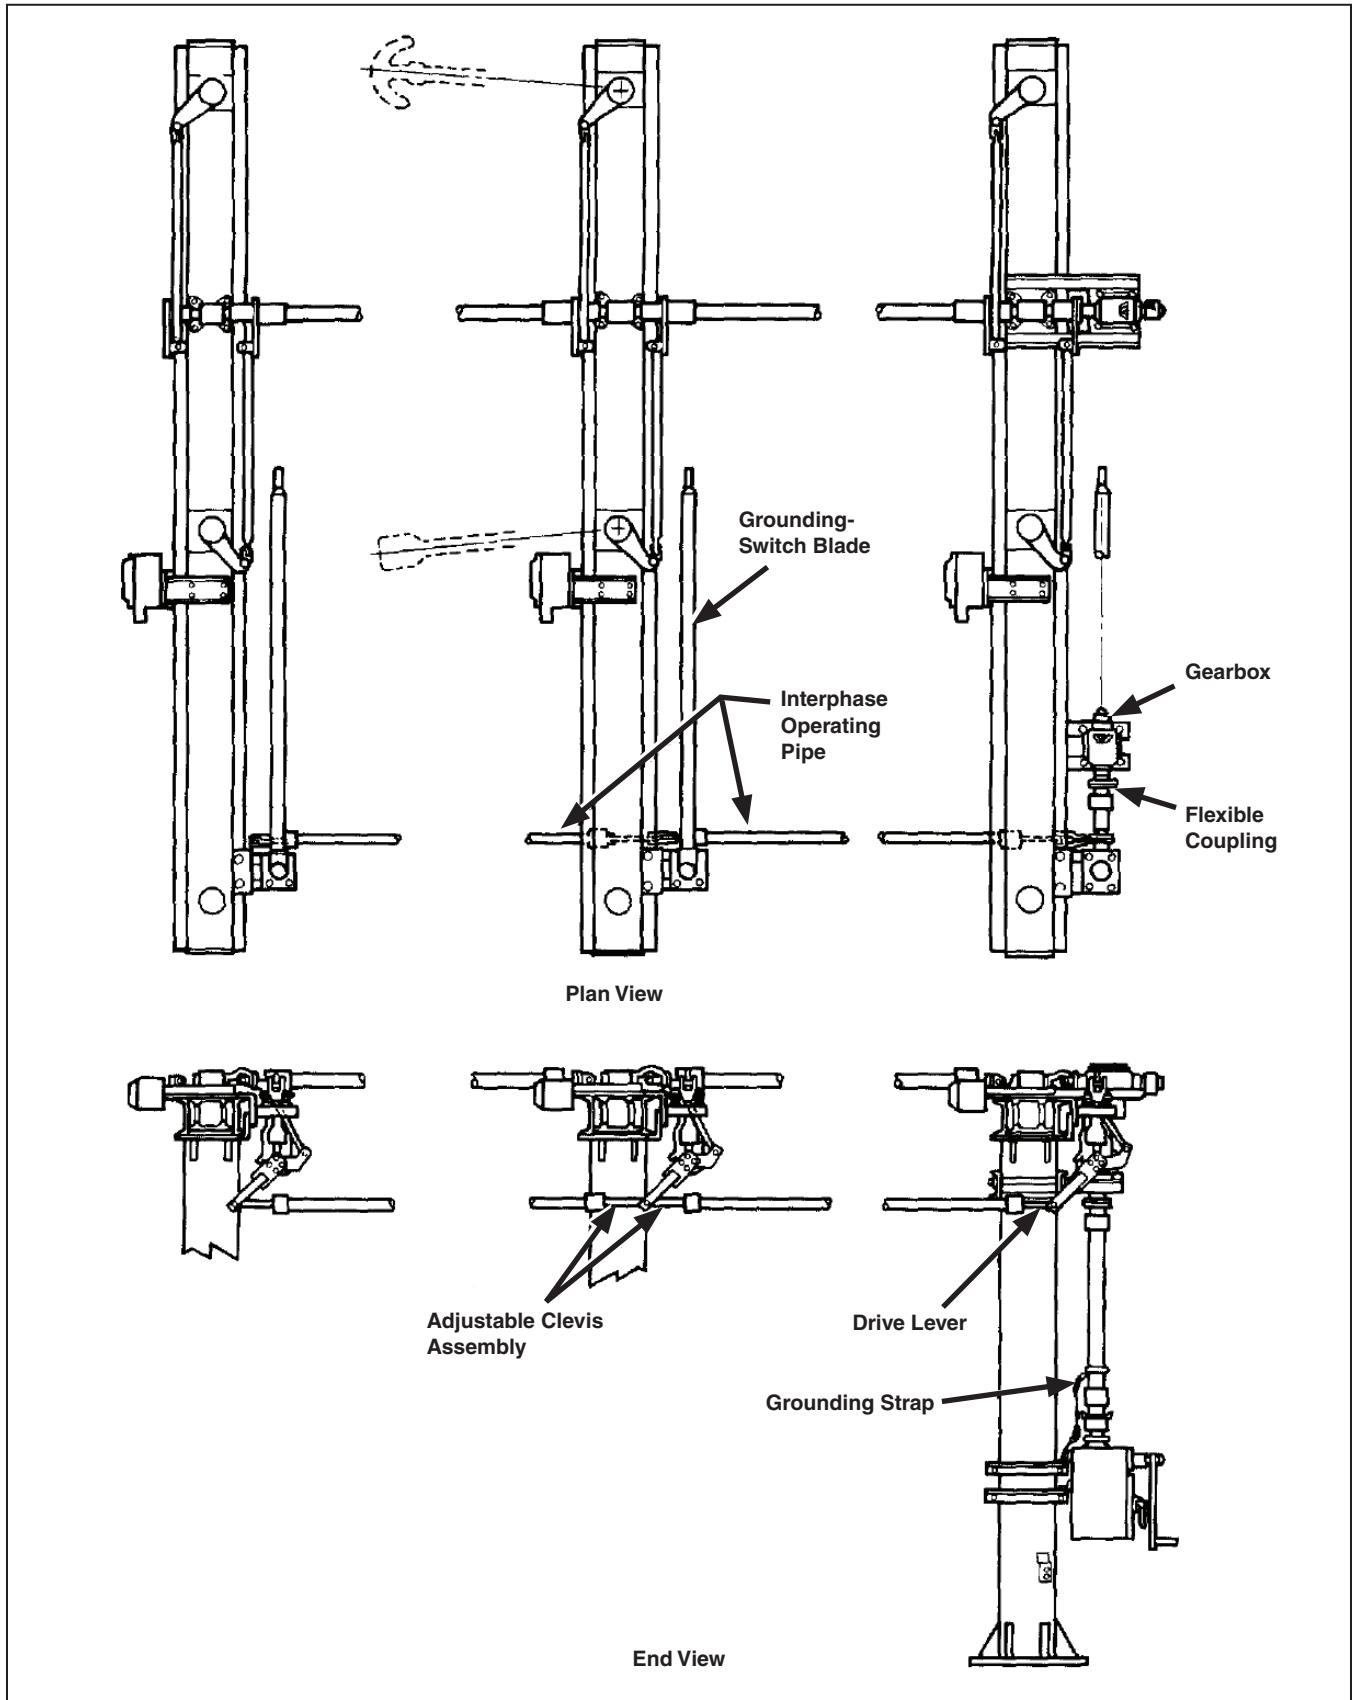
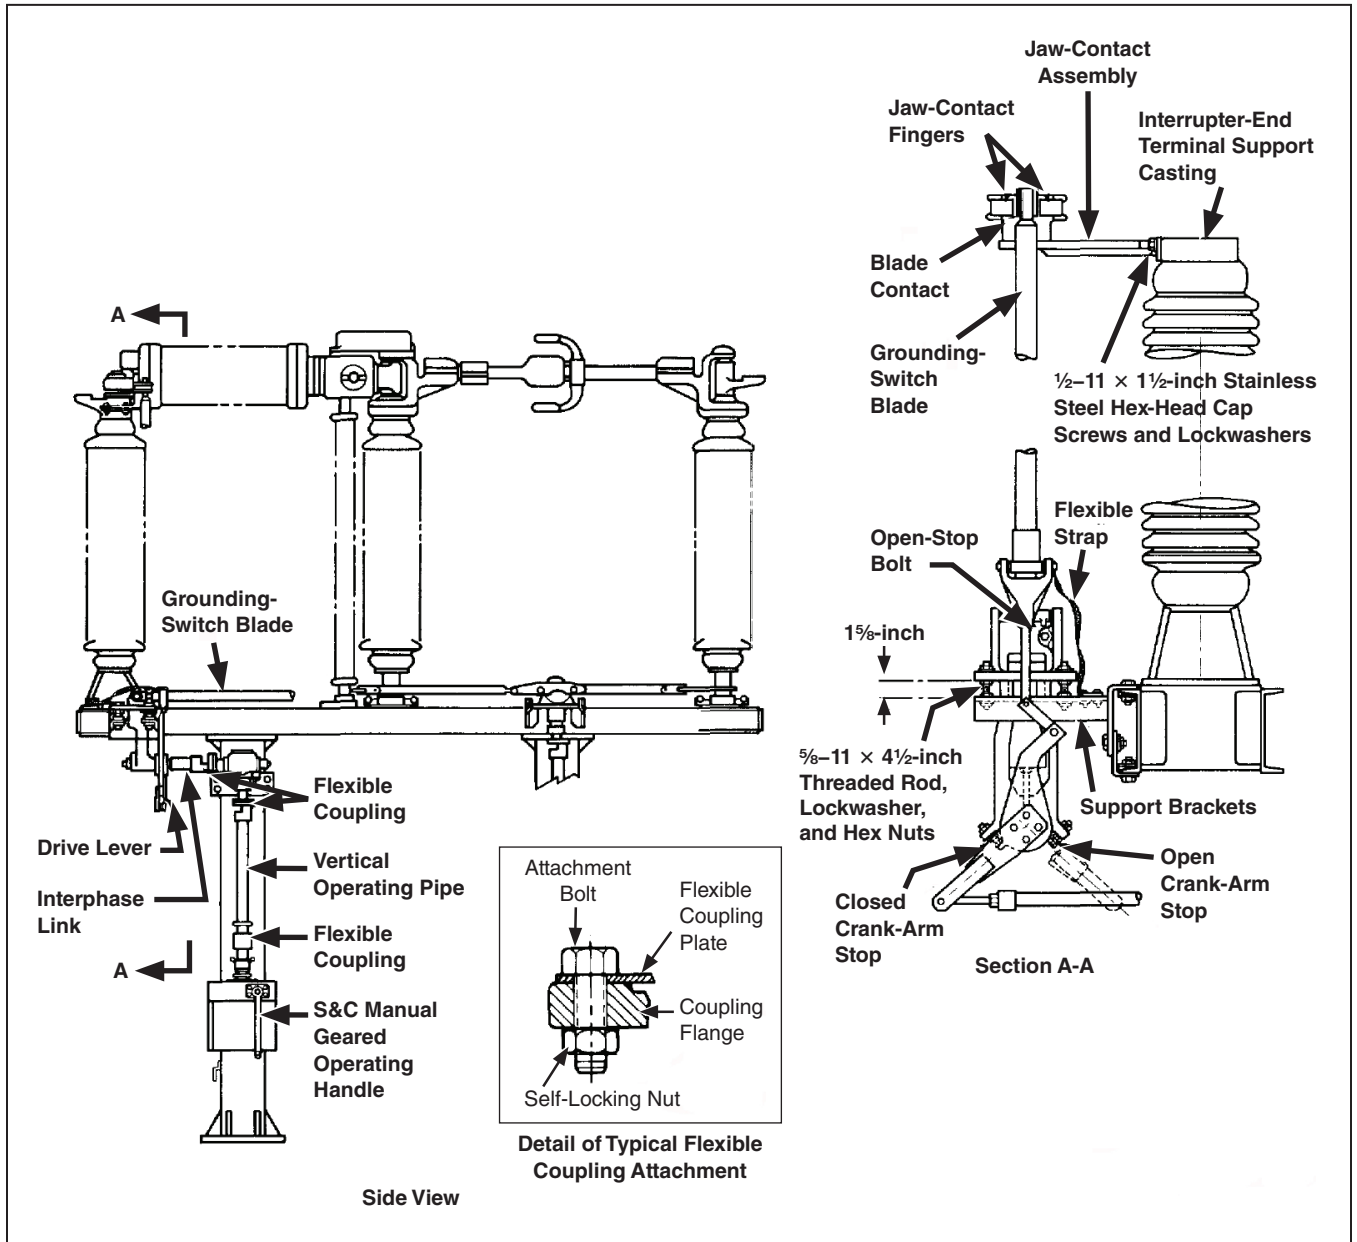

Figure 1. Grounding-switch live parts attachment detail.
Figure 2. Typical three-pole grounding-switch configuration.
- (a) Mount the jaw-contact assembly on the side of the circuit-switcher terminal support casting (at the interrupter end) using the $\frac{5}{8}$ -11 \times 1½-inch stainless steel hex-head cap screws and lockwashers. See Detail A-A in Figure 2 on page 9. The screws used to attach the jaw contact should be left loose enough for adjustment.
- (b) Attach the grounding-switch support brackets to the circuit-switcher base as shown on the erection drawing and Figure 1 on page 7 and Figure 2 on page 9.
Attach a flexible coupling to the input shaft of the gearbox. See Figure 1 on page 7. Thread the attachment bolts through the flexible coupling plate and through the coupling flange on the input shaft. Tighten the bolts to draw the flexible plate flush against the flange; this will deform the threads in the flexible plate, resulting in a binding, nonslip connection. Install and tighten the self-locking nuts. Do not use lockwashers with the attachment bolts.
Attach a flexible coupling to the output shaft of the geared operating handle. See Figure 2 on page 9. Thread the attachment bolts through the flexible coupling plate and through the coupling flange on the output shaft. Tighten the bolts to draw the flexible plate flush against the flange; this will deform the threads in the flexible plate, resulting in a binding, nonslip connection. Install and tighten the self-locking nuts. Do not use lockwashers with the attachment bolts.